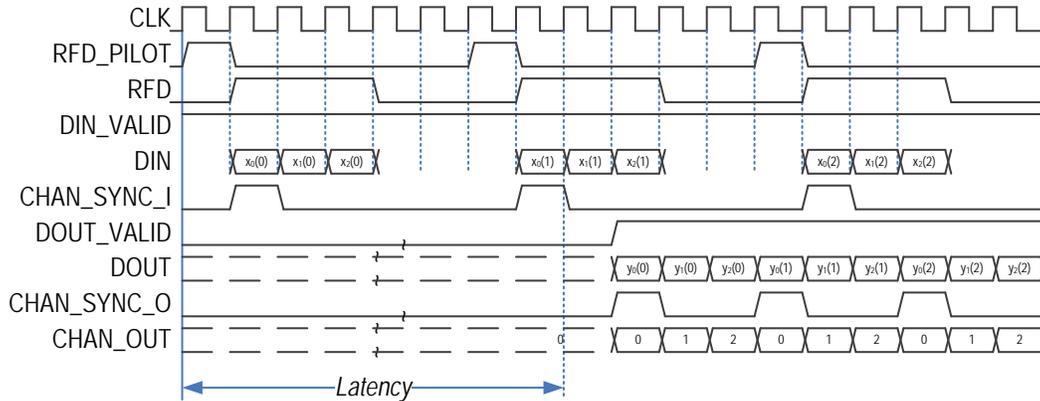

Figure 32 Interpolation CIC Timing - Three Time Share Channels, Data Permanently Valid
Figure 32 shows an example of a multi-channel interpolator timing diagram. In this example, a data source is capable of providing a fresh input sample at every clock interval, thus the DIN_VALID pulse is High permanently. The data comes from three multiplexed time share channels x0, x1 and x2 on the same DIN bus. Multiplexing the three channels into a single bus is possible, as for this example the parameter CLK_PER_SAMPLE = 3. The RFD signal stays active for three consecutive clock periods to accept an input sample from each of the channels. CHAN_SYNC_I marks every sample of the first channel data x0. The example of assumes that the core reset recently happened to show the Latency interval, refer to Figure 32. Once the interpolator is ready to output the filtered samples after Latency, it raises the DOUT_VALID signal. The interpolated samples appear on the DOUT port: the samples y0(0) and y0(1) are calculated based on the input sample x0(0), the samples y0(2) and y0(3) are calculated based on the sample x0(1), and so on. CHAN_SYNC_O marks every output sample of the channel y0, and the CHAN_OUT counts channels 0 to 2 while the DOUT_VALID is active.